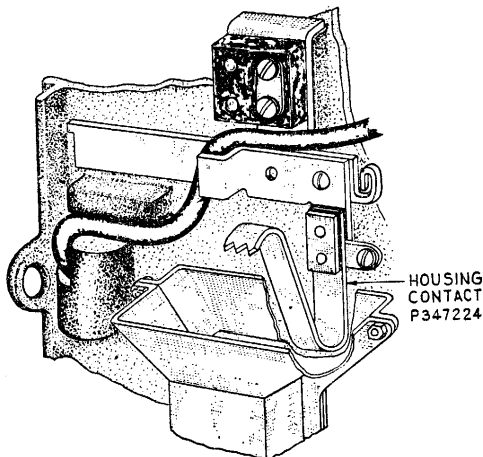

Fig. 3
3.06 In order to provide the "dial shorting" feature, see paragraph 4.05, a special P347224 housing contact is provided. The method of mounting this contact is illustrated in figure 3.